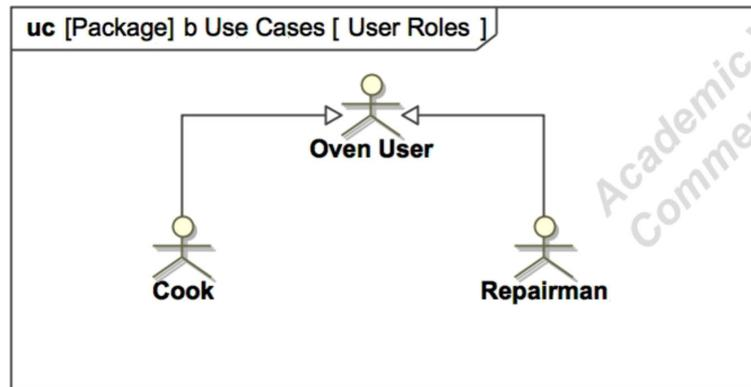

Figure 29. User Roles for the Microwave Oven
- MBSAP recommends creating a special kind of UC Diagram called a User Roles Diagram. It contains only Actors that model User Roles, i.e., the interactions of system users with the system. In a complex system with many kinds of users, this is a good way to capture characteristics such as required training and to group related User Roles. It's often very convenient to have a hierarchy of User Roles with specific roles inheriting the shared characteristics of more general roles. Fig. 29 is a very simple example from the microwave oven model. It's created like any other UC Diagram except that Generalization relationships are used to show that Cook and Repairman inherit from a general Oven User Role.